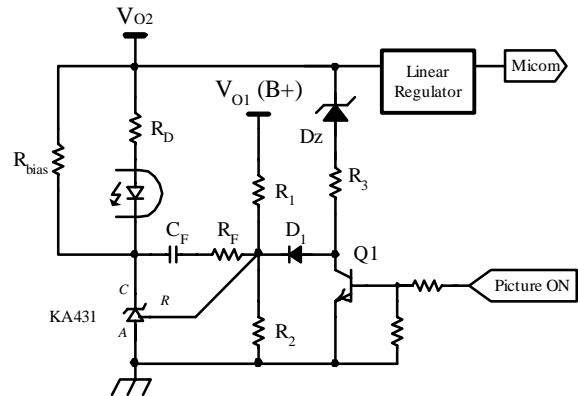

Figure 15. Typical feedback circuit to drop output voltage in standby mode
6. Burst operation : In order to minimize the power consumption in the standby mode, FSCQ0765RT employs burst operation. Once FSCQ0765RT enters into burst mode, FSCQ0765RT allows all output voltages and effective switching frequency to be reduced. Figure 15 shows the typical feedback circuit for C-TV applications. In normal operation, the picture on signal is applied and the transistor Q1 is turned on, which de-couples R3, Dz and D1 from the feedback network. Therefore, only Vo1 is regulated by R1 and R2 as